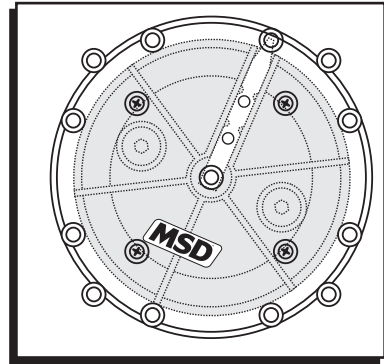

Figure 4 Rotor Tip Alignment.
4. Put the Cap in place and ensure correct alignment of the rotor tip and the spark plug terminal (Figure 4). If they do not line up correctly, remove the rotor and adjust the position of the Cap Spacer with its slotted mounting holes.